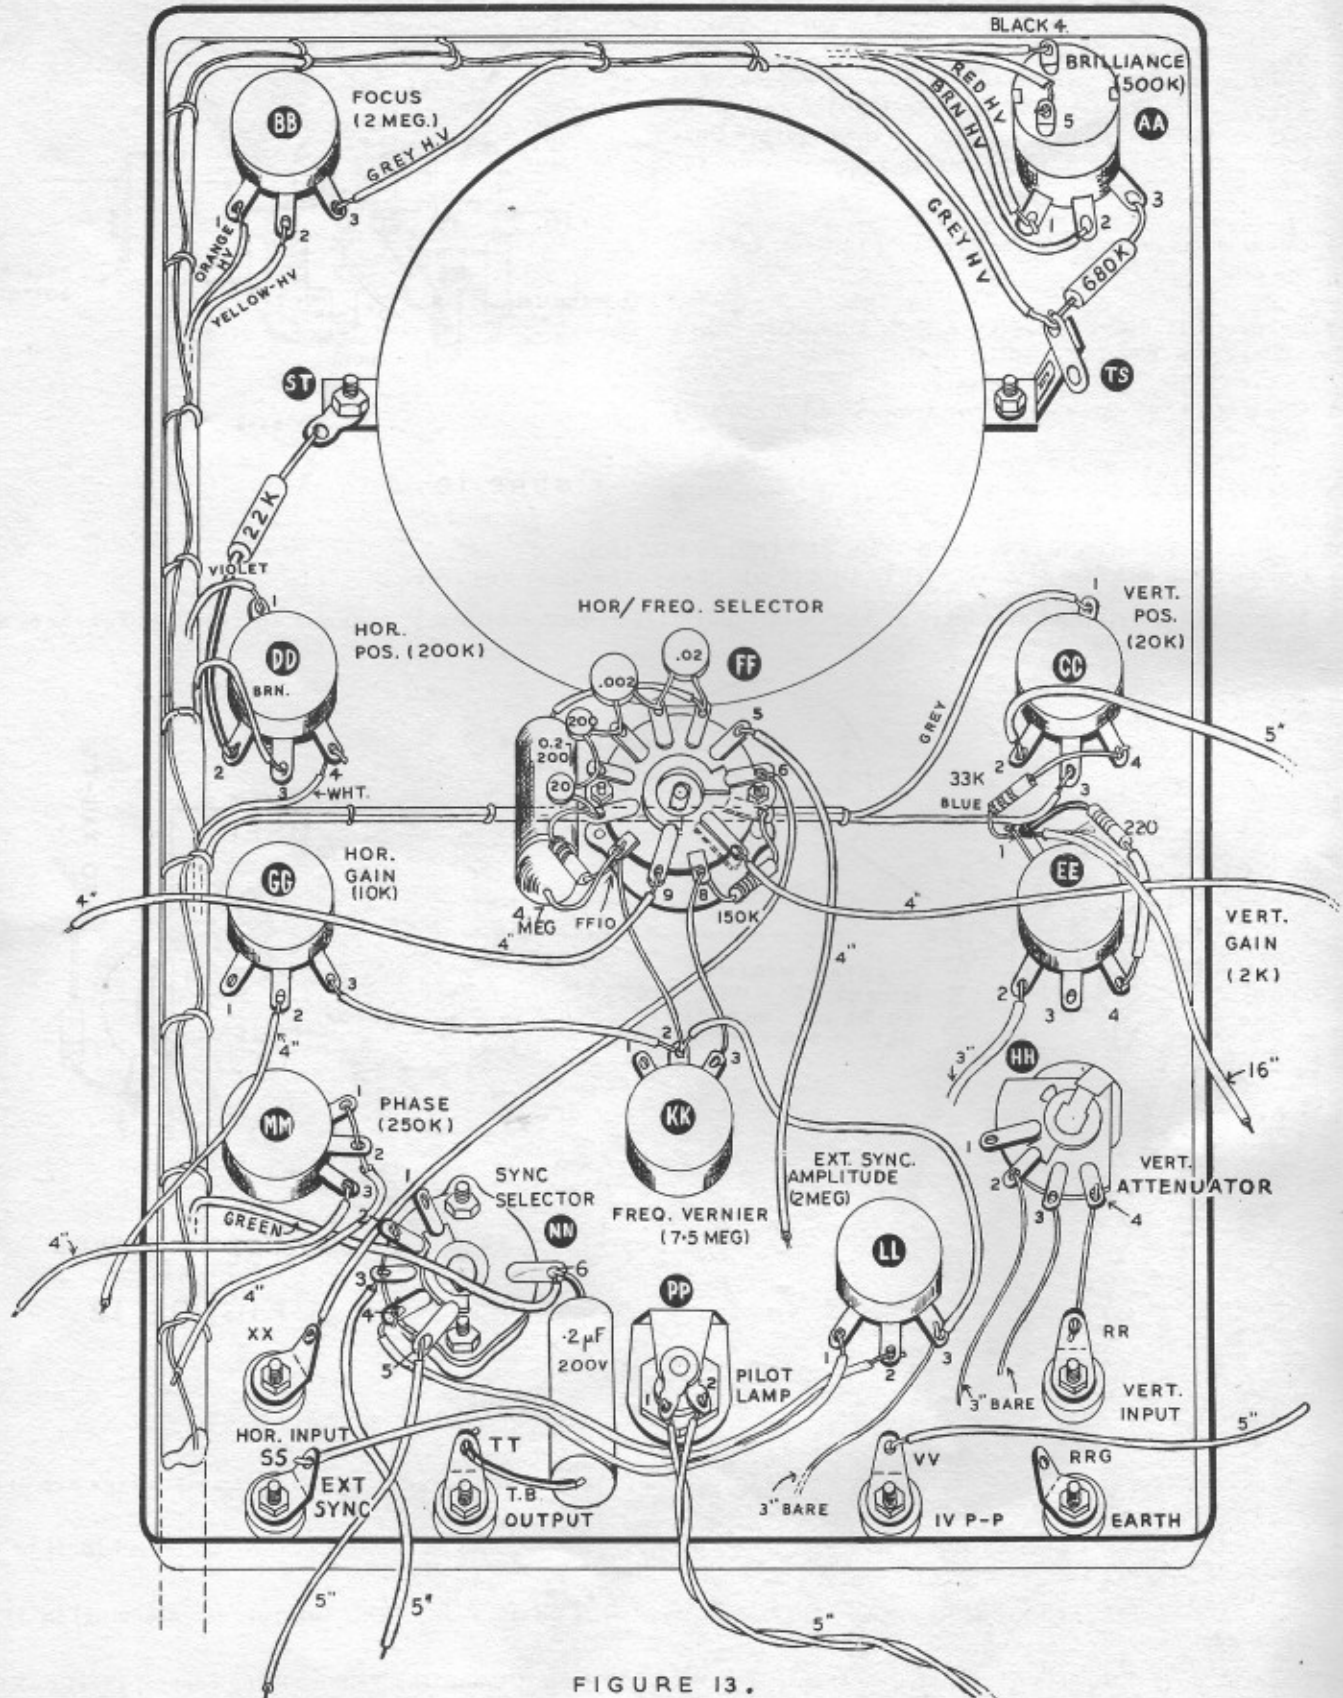

FIGURE 13.
- () Connect a 680 K Ω 1 watt resistor (BLUE, GREY, YELLOW) from AA3 on the BRILLIANCE control (S-1) to TS (NS). See Figure 13.
- () Connect a 33 K Ω resistor (ORANGE, ORANGE, ORANGE) from CC4 on the VERT. POS. control (S-1) to EE1 on the VERT. GAIN control (NS).
- () Connect one lead of a 0.2 μ F 200 volt tubular capacitor to NN6 (use sleeving) (NS) and the other lead to TT (use sleeving) (S-1).
- () Connect one end of a 4" length of wire through MM2 on the PHASE control (NS) to MM1 (S-1). Now solder MM2. Leave the other end free.
- () Connect one end of a 4" length of wire to MM3 (NS). Leave the other end free.
- () Identify the panel end of the cable assembly or harness. This is the end with five leads, two BLACK conductors with thin insulation and three conductors with thick, or high-voltage insulation. These high-voltage conductors are colour coded BROWN, GREY and RED. The abbreviation HV, will refer to the conductors with heavy-wall insulation. Refer to Figure 13.